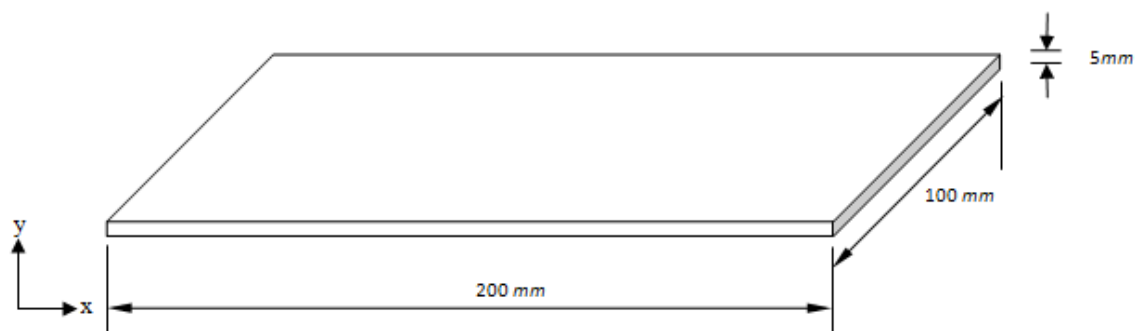

Fig 1. Isotropic rectangular plate
- To model an isotropic rectangular plate with dimensions as in fig 1.